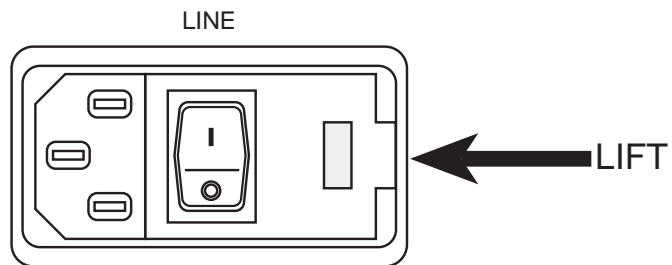

Figure 4. Cover of SP2200 fuse compartment
2. Use a small, flat-head screwdriver to lift the cover of the fuse compartment (see Figure 4).